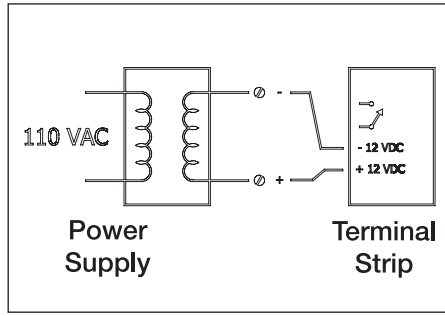

Figure 8
3. Install wiring (The wire is installer supplied. Thermostat wire is acceptable) between the green circuit board connector and the Power Supply, observing polarity, as shown on both the power module and the control panel. [+ to + and - to -] **Figure 8**